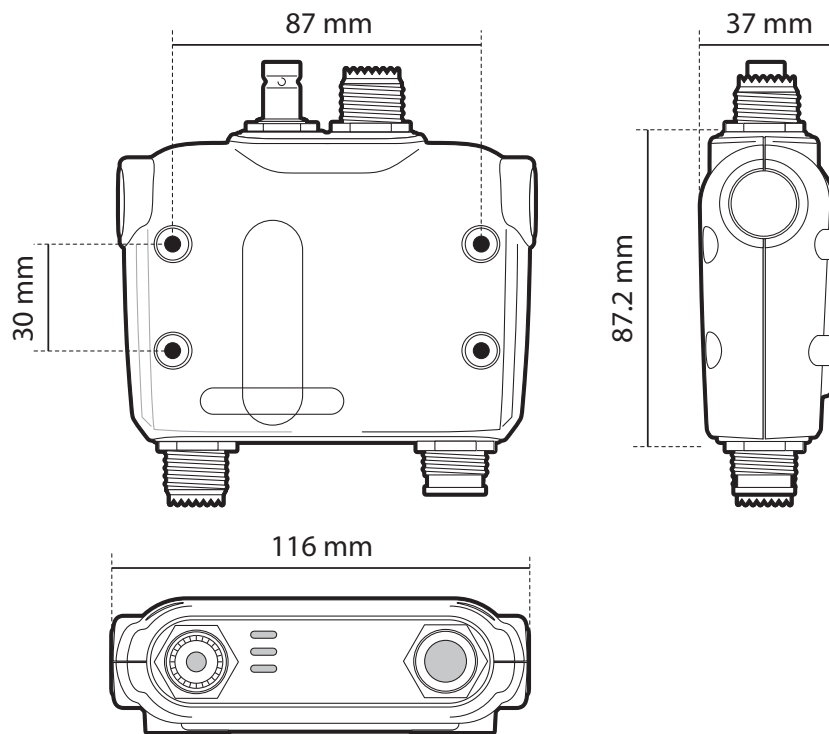

Figure 4 AIS antenna splitter dimensions
- There should be adequate space around the AIS antenna splitter for routing of cables. See Figure 4 for details of the AIS antenna splitter dimensions.